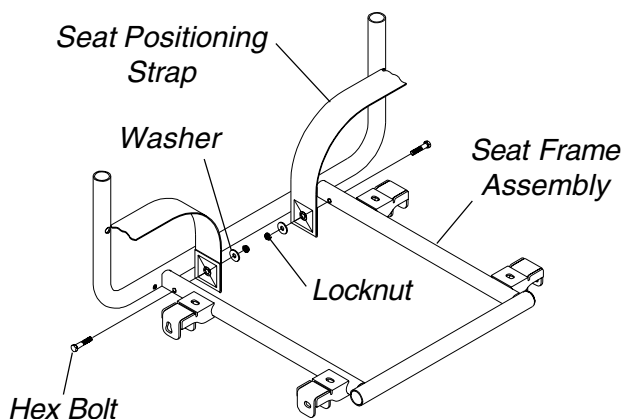

FIGURE 1 - REPLACING SEAT POSITIONING STRAP - CAPTAIN'S SEATS
2. Remove the two (2) hex bolts, washers and locknuts that secure the seat positioning strap to the seat frame assembly.
3. Remove the two (2) halves of the seat positioning strap from the seat frame assembly.
4. Position the two (2) new seat positioning strap halves on the inside of the seat frame assembly as shown in FIGURE 1.
5. Position the mounting holes in the two (2) new seat positioning strap halves with the mounting holes in the seat frame assembly.
6. Reinstall the two (2) hex bolts, washers and locknuts that secure the seat positioning strap to the seat frame assembly and tighten securely.